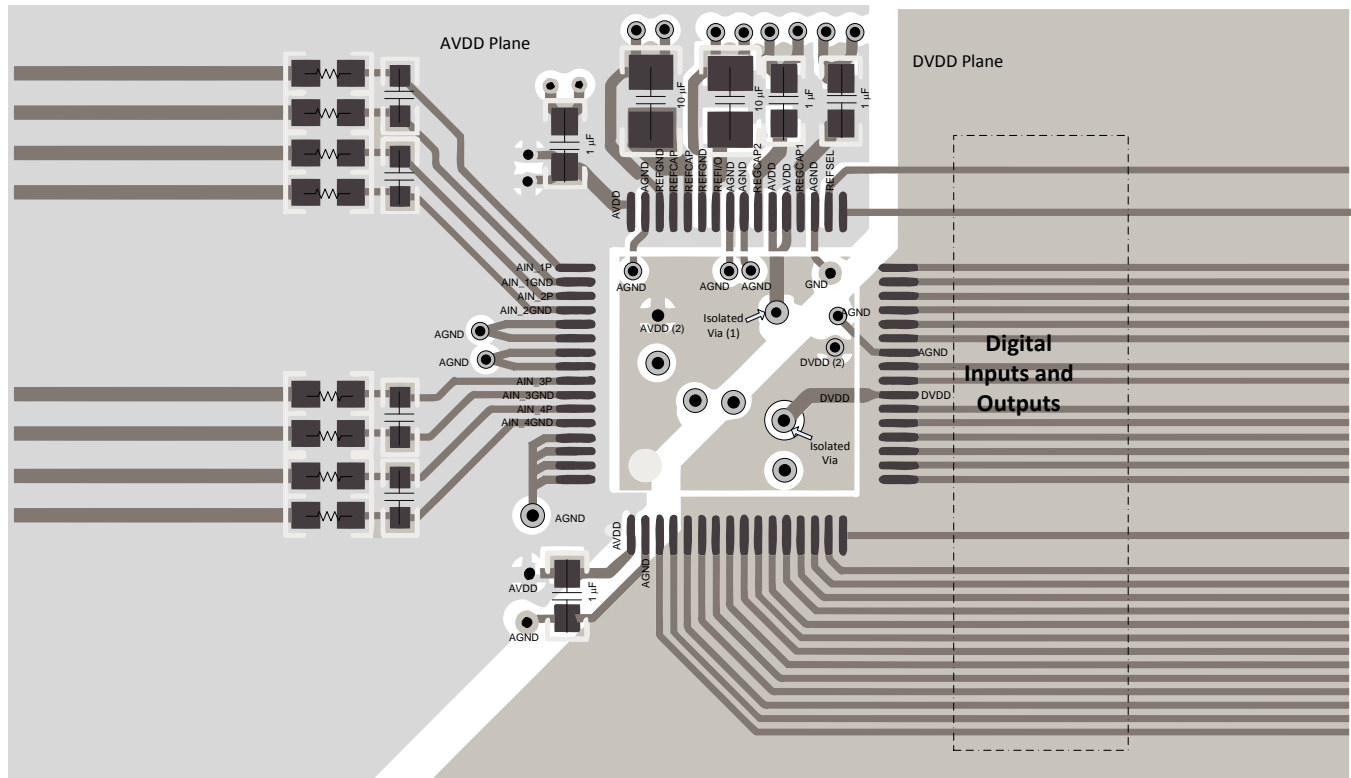
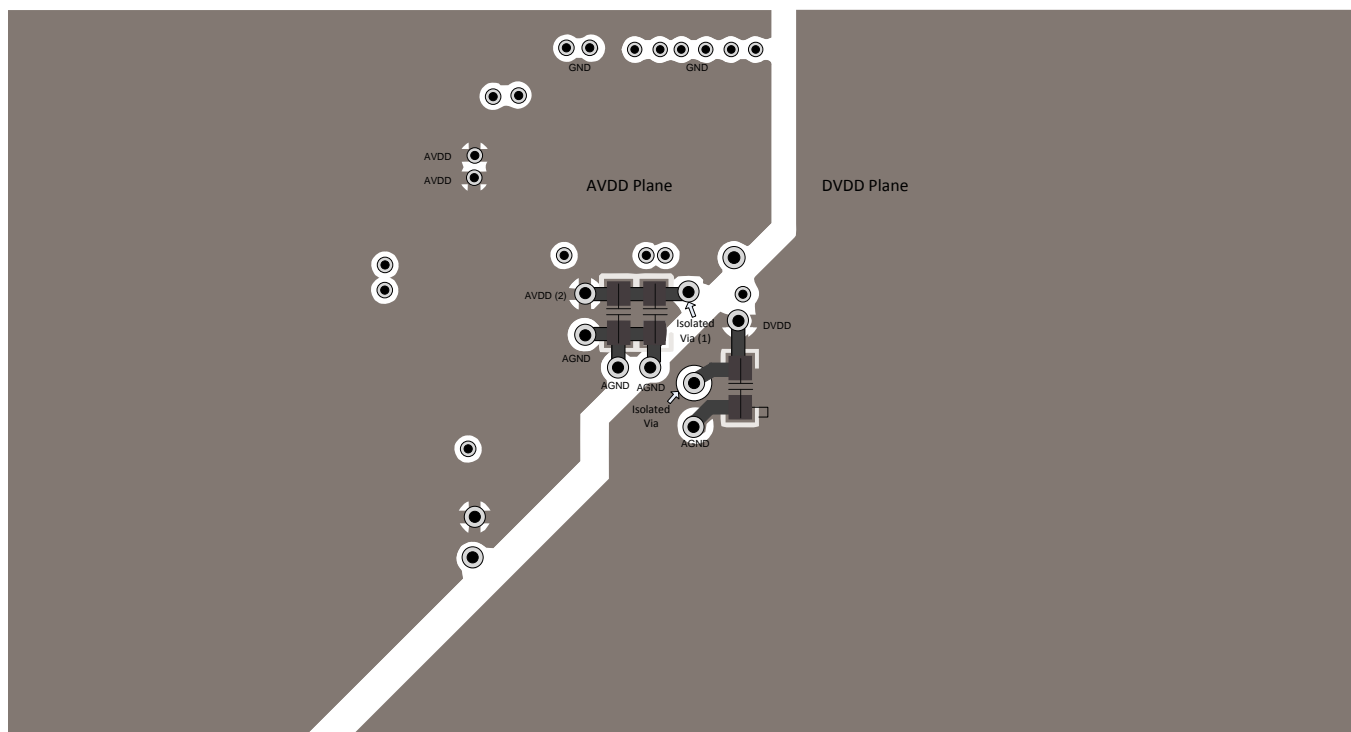

Figure 89. Top Layer Layout
Figure 90. Bottom Layer Layout
Figure 89 and Figure 90 illustrate a PCB layout example for the ADS8584S.
- Power sources to the ADS8584S must be clean and well-bypassed. As a result of dynamic currents during conversion, each AVDD must have a decoupling capacitor to keep the supply voltage stable. Use wide traces or a dedicated analog supply plane to minimize trace inductance and reduce glitches. Using a 1- $\mu$ F, X7R-grade, 0603-size ceramic capacitor is recommended in close proximity to each analog (AVDD) supply pins. Bypass capacitors for AVDD pins 1 and 48 are located on the top layer; see Figure 89. AVDD supply pins 37 and 38 are connected to bypass capacitors in the bottom layer using an isolated via (1); see Figure 90. A separate via (2) is used to connect the bypass capacitor to the AVDD plane.
- For decoupling the digital (DVDD) supply pin, a 1- $\mu$ F, X7R-grade, 0603-size ceramic capacitor is recommended. The DVDD bypass capacitor is located in the bottom layer; see Figure 90.
Figure 89 and Figure 90 illustrate a recommended layout for the ADS8584S along with proper decoupling and reference capacitor placement and connections.